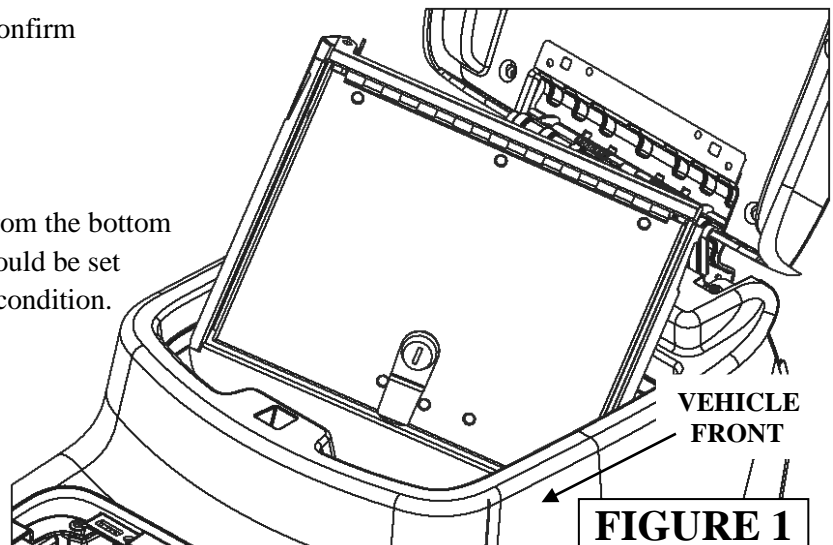

FIGURE 1
3. Remove the (4) factory console mounting bolts from the bottom of the console. They will NOT be re-used, but should be set aside if you wish to return the console to factory condition.
4. **Figure 1:** Fold the Console Safe leg into the folded shipping position and lower the insert into the console. By angling the left corner of Console Safe (side with lid support hardware) into the console opening first.